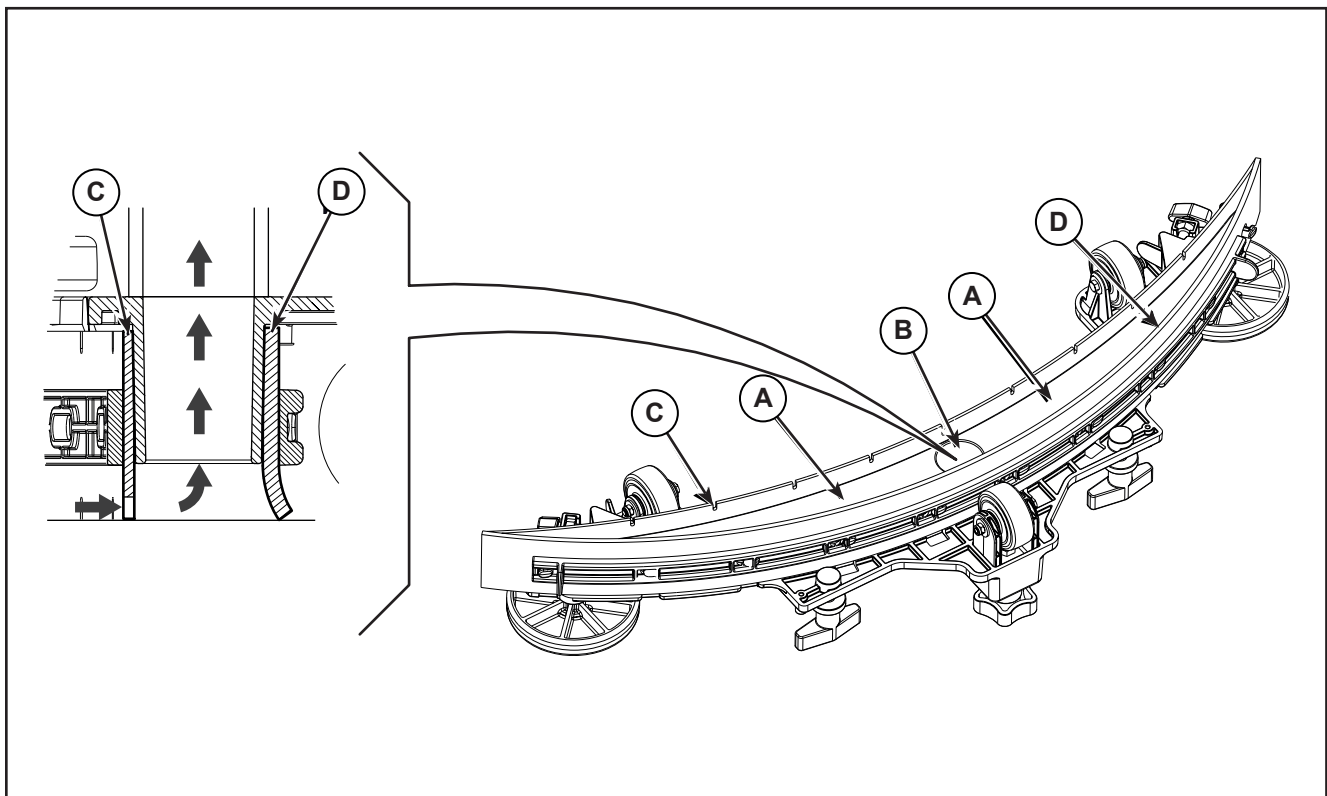

Figure 3:
4. Wash and clean the squeegee. In particular, clean the compartments (A) (Figure 3) and the vacuum hole (B). Check that the front blade (C) and the rear blade (D) are integral and free from cuts and lacerations; if necessary replace them.